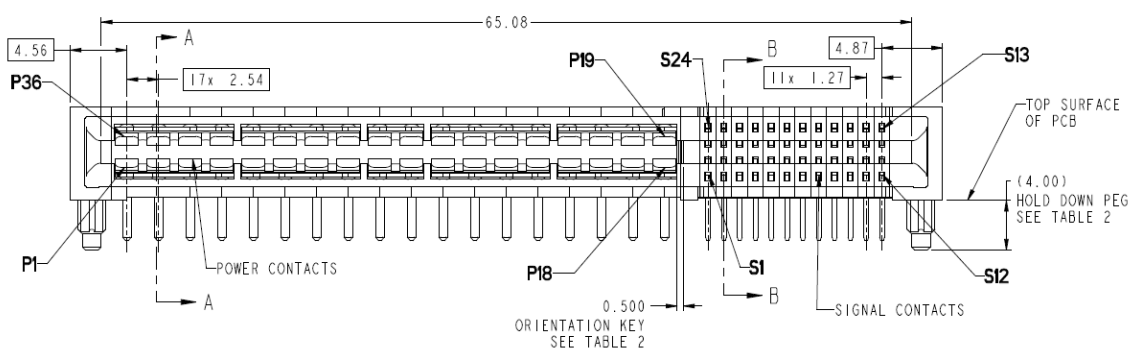

Figure 24 PSU mating connector
The mating connector on Open edge power distribution board is shown in Figure 24. The connector type is High Power Card Edge (FCI 10130248-005LF, or equivalent), having separate power (P) and signal (S) contact zones. Currently, these PSU's are available from multiple suppliers. Pin assignment of the connector is shown in Table 10.